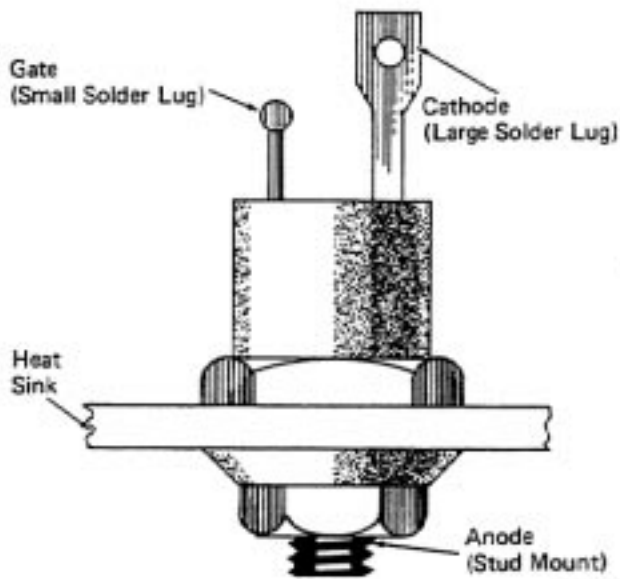

Fig. 25 - Connection to SCR2
30. Connect positive lead of a DC voltmeter to the cathode (large solder lug) SCR2, Fig. 25. Connect the negative lead to terminal 11 of the printed circuit board.